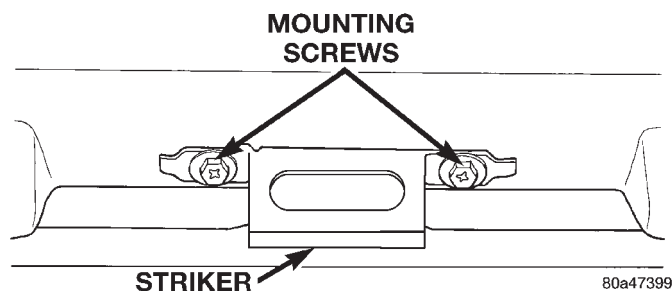

Fig. 18 Glove Box Latch Striker Remove/Install
(1) Disconnect and isolate the battery negative cable.
(2) Remove the glove box from the instrument panel. Refer to **Glove Box** in the Removal and Installation section of this group for the procedures.
(3) Remove the two screws that secure the latch striker to the grab handle bezel at the top of the instrument panel glove box opening (Fig. 18).